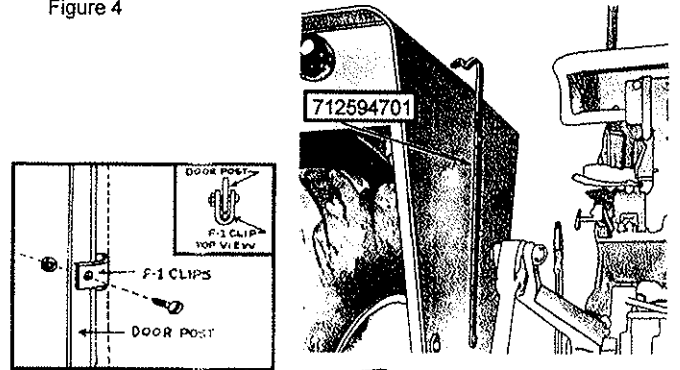

Figure 5
8. Bolt #712594701 latch to front top bolt on fender. Drill extra hole in fender using top hole as template. Use 3/8" x 1 1/2" bolt and nut. (See Figure 5).